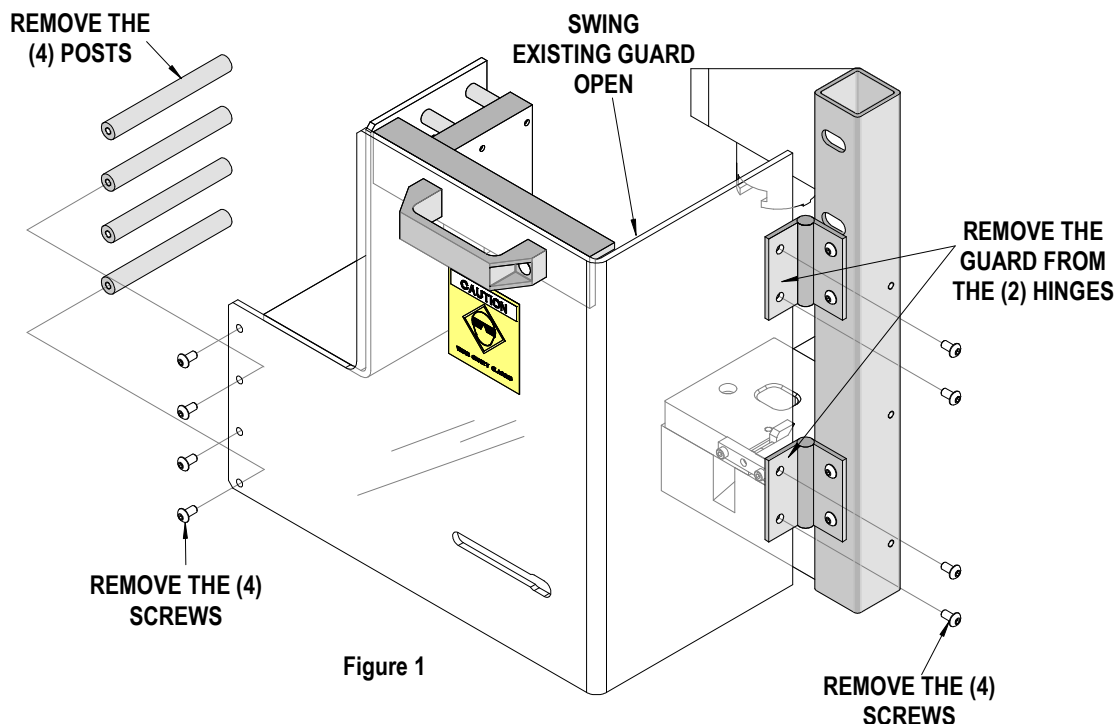

Figure 1
2. Remove the (4) screws which hold the existing guard door to the hinges. See Figure 1.
3. With the existing guard door off the press, remove the (4) posts, and reinstall them on the new guard door.